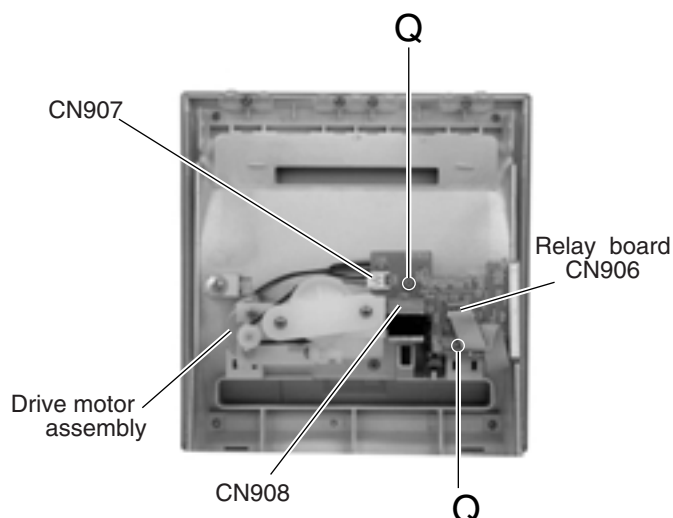

Fig.27
■ Removing the relay board (See Fig. 27)